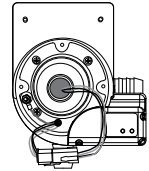

Figure 14.5b
2. Once the UV bulb has cooled off remove the CLEARRAY System enclosure cover (2) by removing the four screws (1). This will expose the UV bulb and connections, Figure 14.5b.